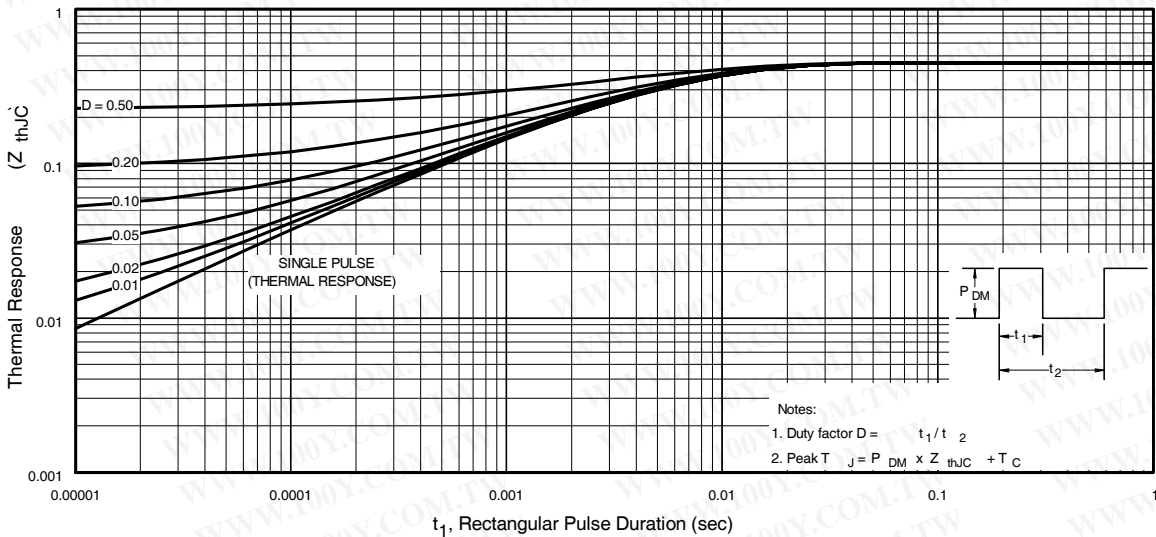

Fig 11. Maximum Effective Transient Thermal Impedance, Junction-to-Case
- ① Repetitive rating; pulse width limited by max. junction temperature. (See fig. 11).
- ② Starting $T_J = 25^\circ\text{C}, L = 0.130\text{mH}$
$Z_{thJC}(D, t_{av})$ = Transient thermal resistance, see figure 11)